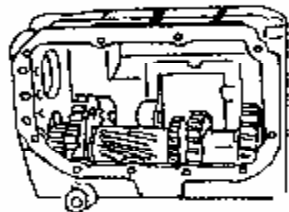

Figure 7-2-9
- (1) Remove transmission side cover;
- (2) Push out R gear shaft;
- (3) Remove limiting circlip of 5th gear from countershaft;
- (4) Remove gear of R gear (figure 7-2-9);
- (5) Remove countershaft assembly.